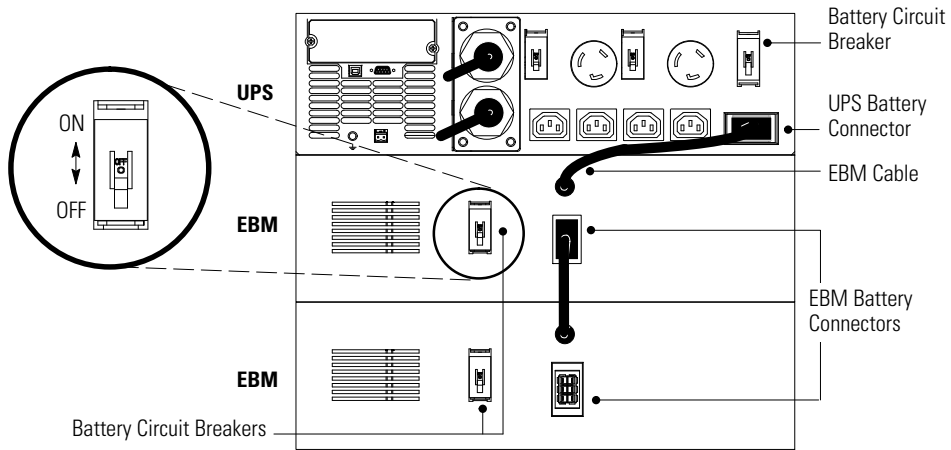
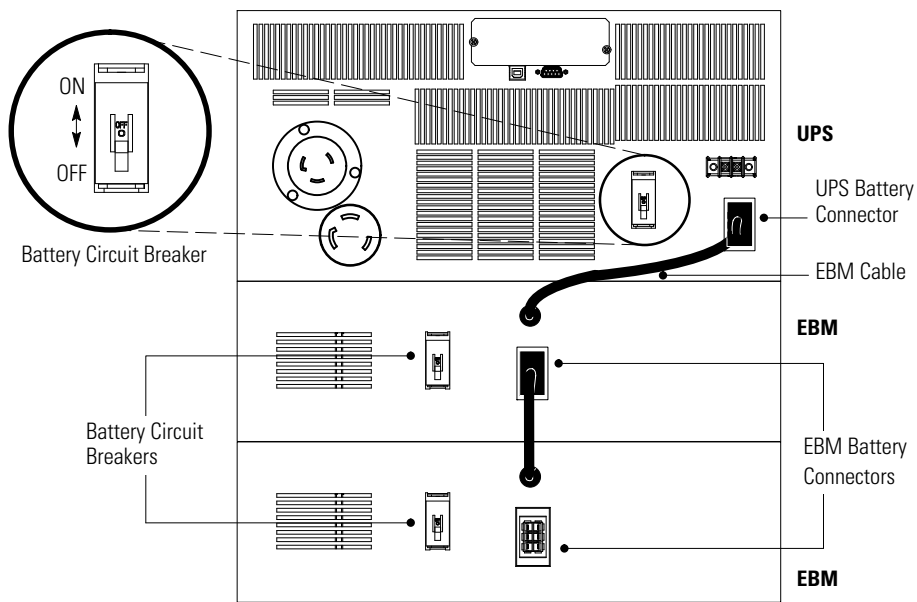

Figure 3. Typical Eaton 5125 EBM Installation
Figure 4. Typical Eaton 9125 EBM Installation
1. Verify that all battery circuit breakers are in the OFF (O) position (see Figure 3 or Figure 4).